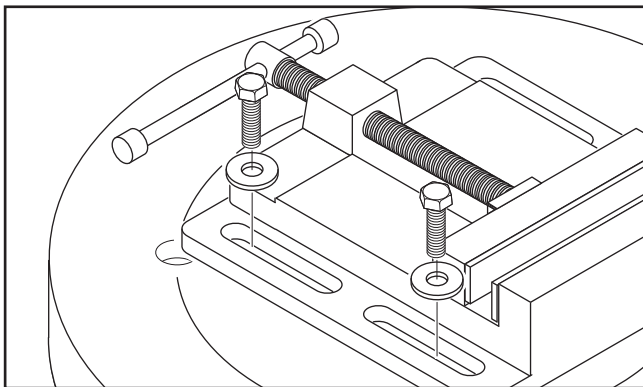

Figure 1. Example of installing the vise.
1. Situate the vise on the drill press table so the mounting slots are aligned with the table slots (see **Figure 1**).